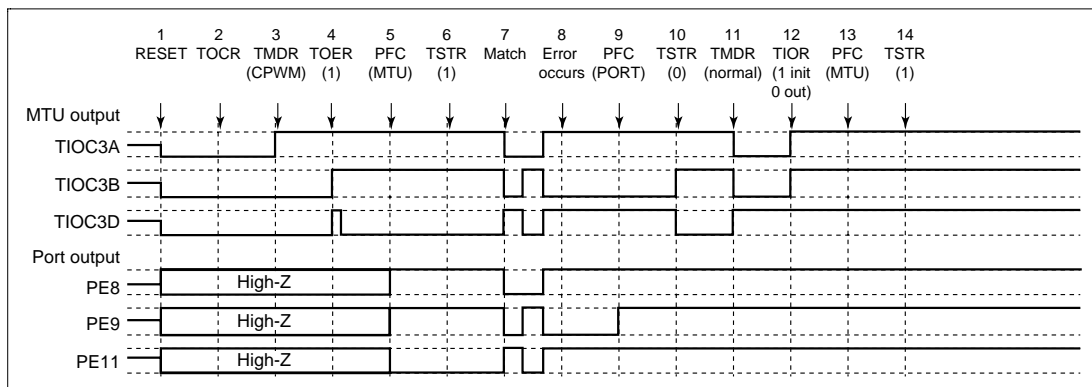

Figure 12.121 Error Occurrence in Reset-Synchronous PWM Mode, Recovery in Normal Mode
(25) Operation when Error Occurs during Reset-Synchronous PWM Mode Operation, and Operation is Restarted in Normal Mode: Figure 12.121 shows an explanatory diagram of the case where an error occurs in reset-synchronous PWM mode and operation is restarted in normal mode after re-setting.
1 to 10 are the same as in figure 12.121.